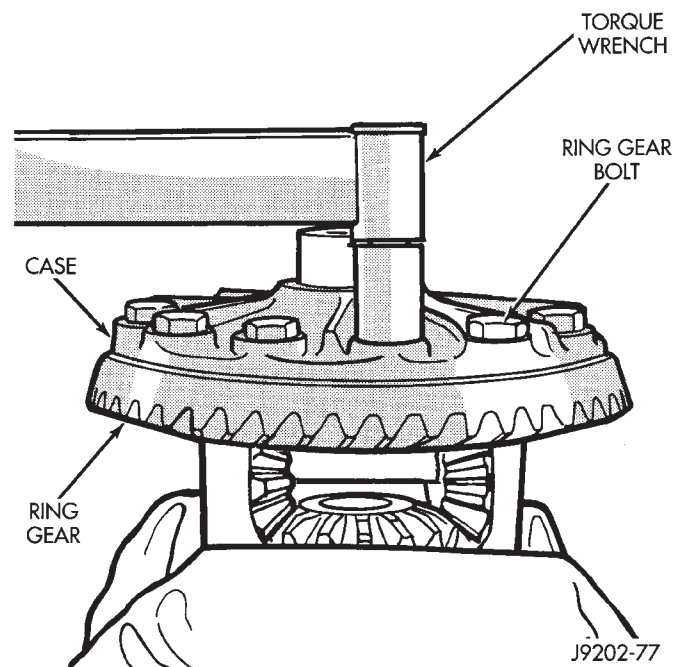

Fig. 36 Ring Gear Bolt Installation
(1) Invert the differential case and start two ring gear bolts. This will provide case-to-ring gear bolt hole alignment.
(2) Install new ring gear bolts and alternately tighten to 61-81 N•m (45-60 ft. lbs.) torque (Fig. 36).